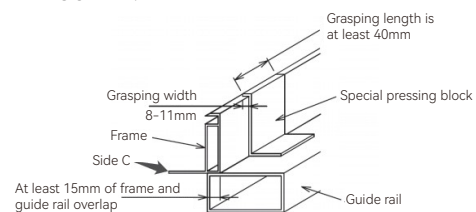

Figure 3 Requirements for Installation of Clamp
⑧ The PV module shall be fixed by using professional solar clamp (as shown in Figure 3), and the overlapping part between the surface C of PV module and the guide rack shall be  $\geq 15\text{mm}$ . If improper clamp or incorrect installation method is used, the warranty of HY SOLAR will be invalid.
⑨ For the modules with the length of more than 2.2m or the width of more than 1.3m, it is recommended to use the clamp with special anti-skidding design. If it is attached to the arc-shaped pressing surface of side A of the frame, or with the structure design of clamping, the clamp shall meet the requirements of length  $a \geq 60\text{mm}$ , thickness  $\geq 5\text{mm}$ , material 6005-T6,  $Rp0.2 > 225\text{MPa}$ , and  $Rm265\text{MPa}$ . Technical requirements and details of pressing clamps can be consulted by after-sales service team of HY SOLAR.